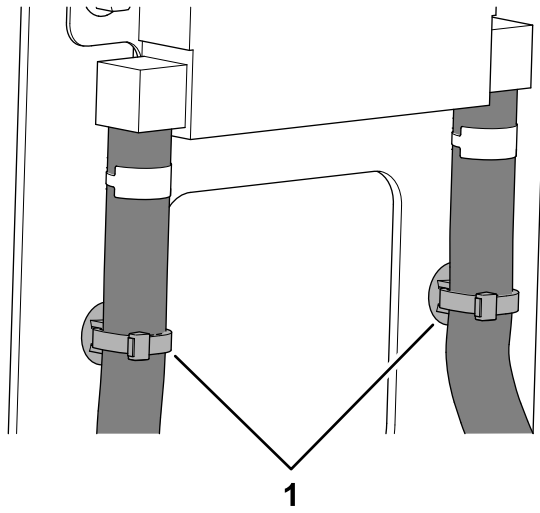

Figure 6
5. Secure the 2 fuel hoses to the fuel-cooler bracket with 2 push-in cable tie/anchor (Figure 6).